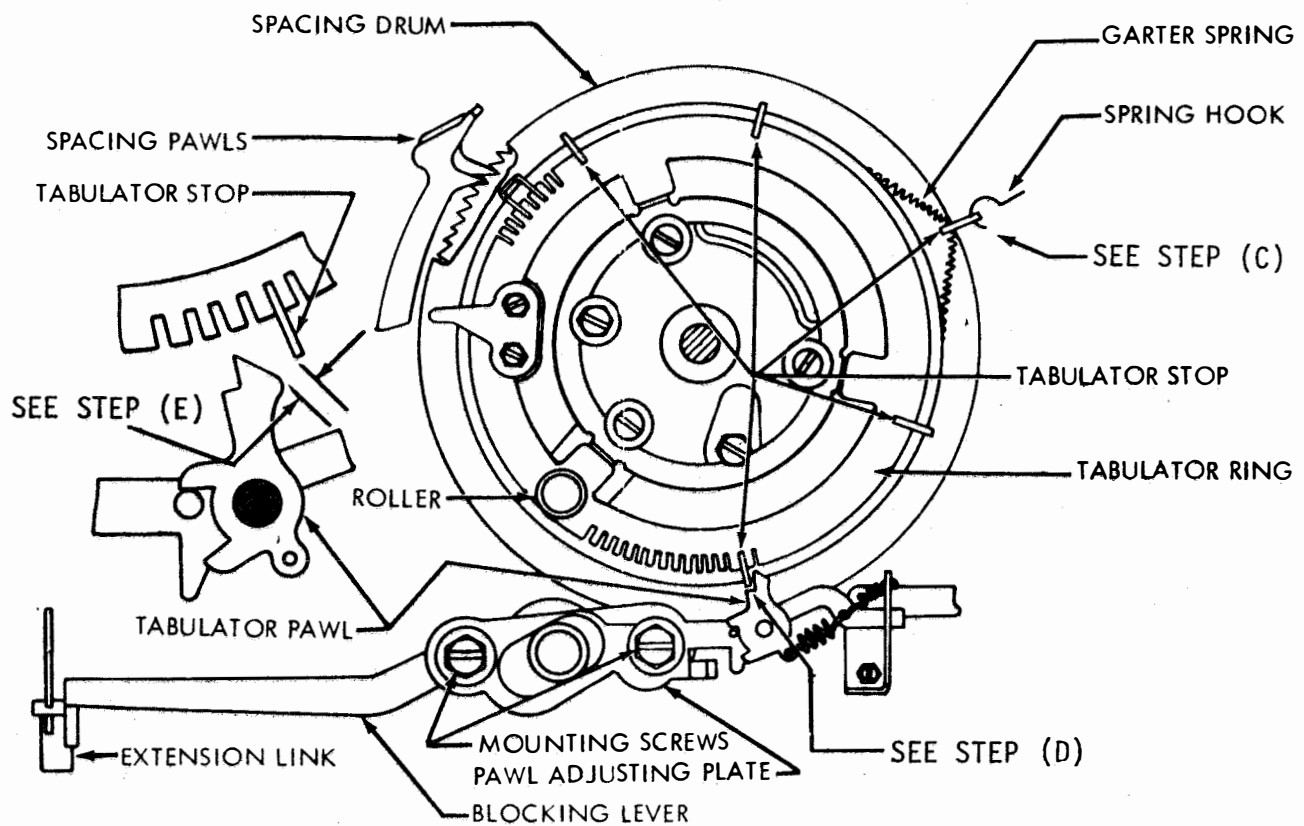

Figure 6-375. Tabulator Pawl (Preliminary), Front View
(a) Refer to Figure 6-375.
- (b) Disengage all clutches so front spacing feed pawl is in lower position as shown in Figure 6-375.
- (c) Position spacing drum so that reference tabulator stop determined in paragraph 6-12a(16) is immediately to left of pawl. Operating lever slide arm should be forward in unblocked position.